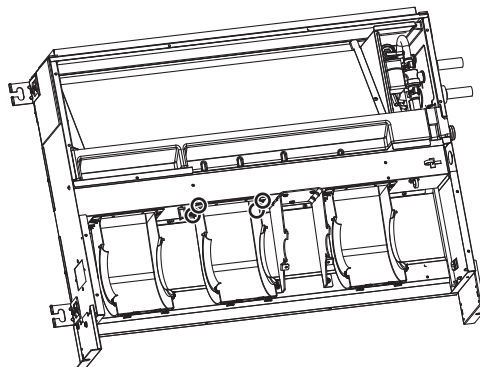

Fig.13
- (3) Remove the fan case fixing screws to take the top half of the fan casing off. (Fig. 13)